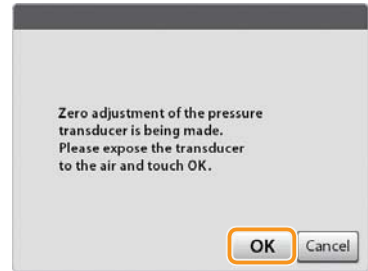

Figure 1-50
4. After confirming the message displayed and expose the pressure sensor to the air, tap [OK]. (Figure 1-50)